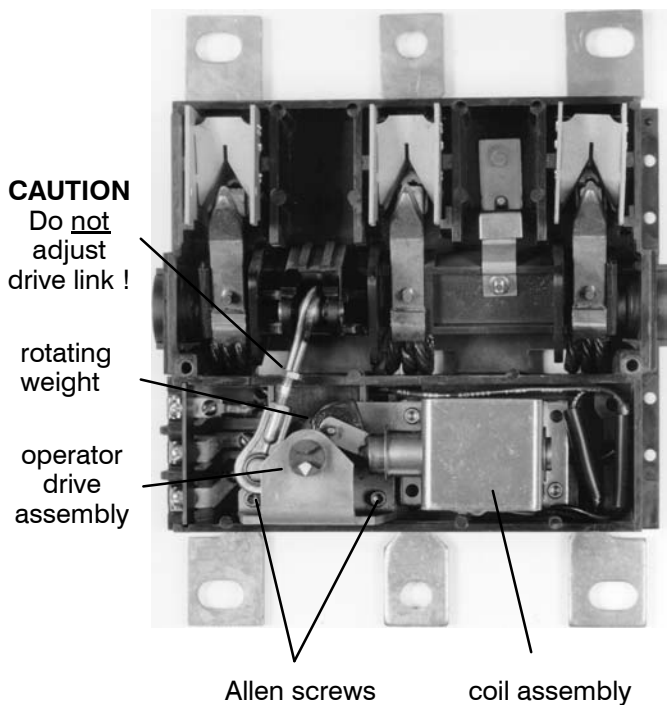

Figure 11. Operator drive assembly.
3. Detach the operator drive assembly from the base by unscrewing three allen-head screws (two screws on black and silver nameplate switches). Use a 9/64, allen wrench counterclockwise. See Figure 11.